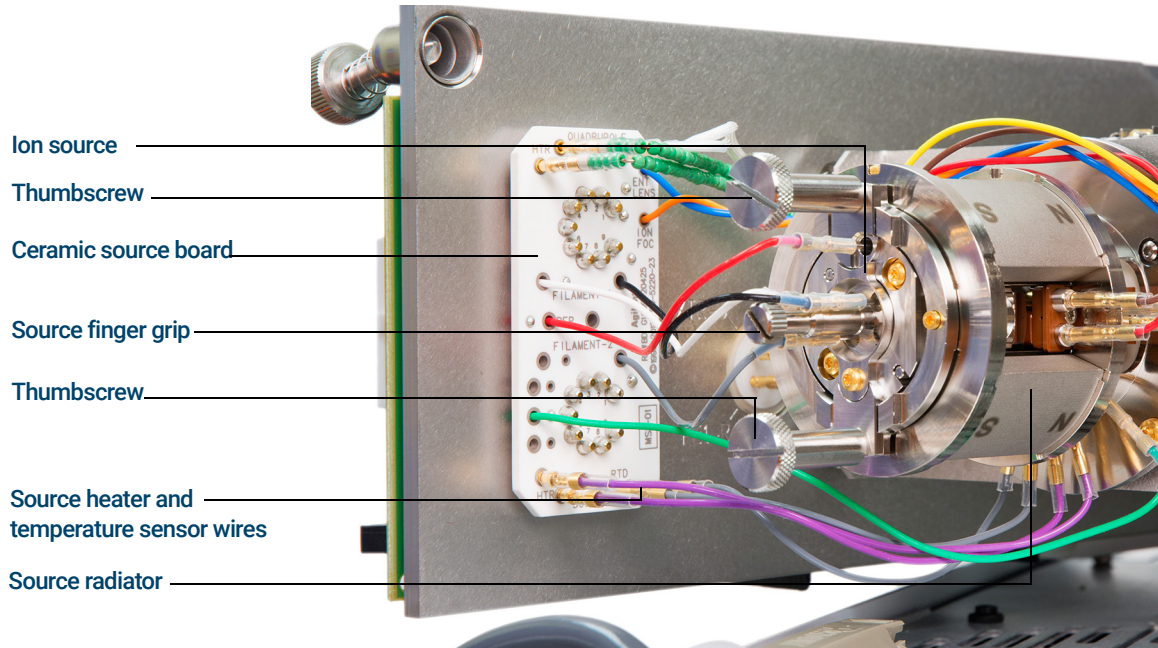

Figure 35. The analyzer chamber for the HES MSD
- 3 Remove the two large thumbscrews that hold the ion source in place. (See **Figure 35** on page 122.)
- 4 Disconnect the wires from the EI HES. (See **Figure 35** on page 122.) Do not bend the wires any more than necessary. (See **"To Connect/Disconnect Wiring to the EI HES"** on page 123.)